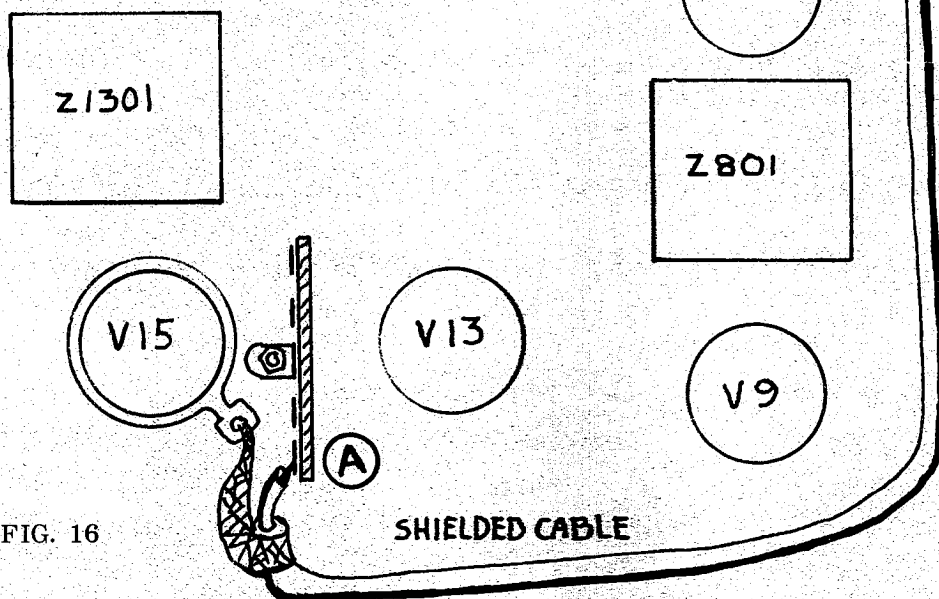

FIG. 16
1. Install 8 pin socket (J5) in accessory location on the back of the 350C. Be sure to orient the socket keyway so the VOX unit will plug in correctly. Secure mounting screws tightly. See Fig. 16.